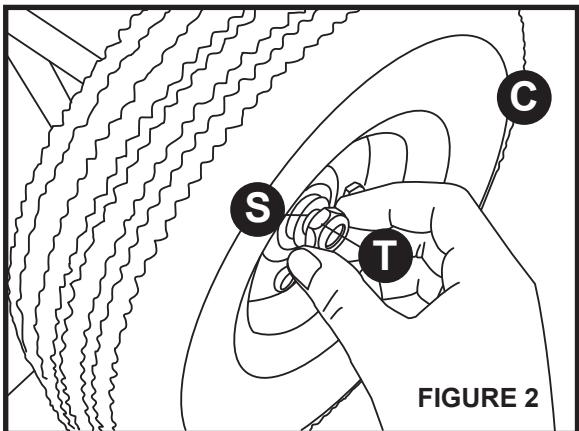

FIGURE 2
2. Place the tires (C) over the axle. Place the axle washer (S) over the thread and screw on the axle nut (T) and tighten securely. Repeat for each remaining tire. **See Figures 2 & 3**